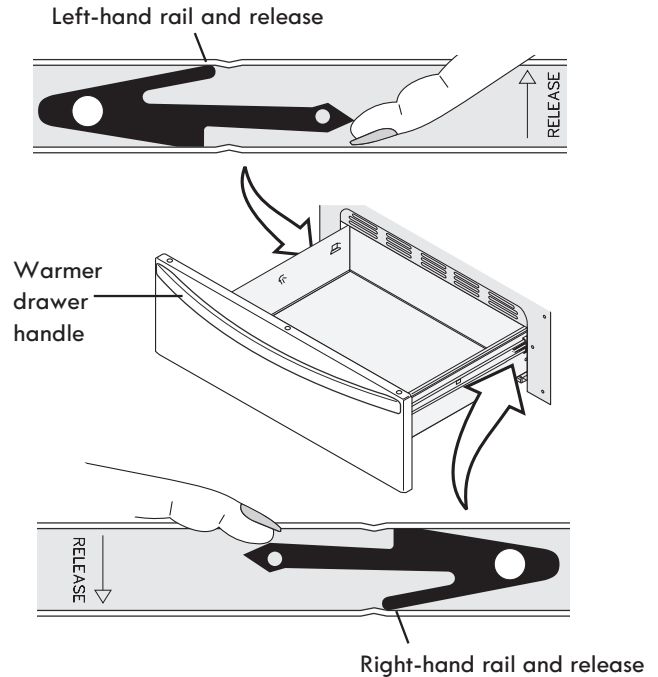

Figure 47: Warmer drawer releases
3. On left warmer drawer rail, locate black release lever and press up with finger while pulling out slightly on the oven drawer handle. On right warmer drawer rail, locate black release lever and press down with finger while pulling out slightly on the warmer drawer handle (Figure 47).